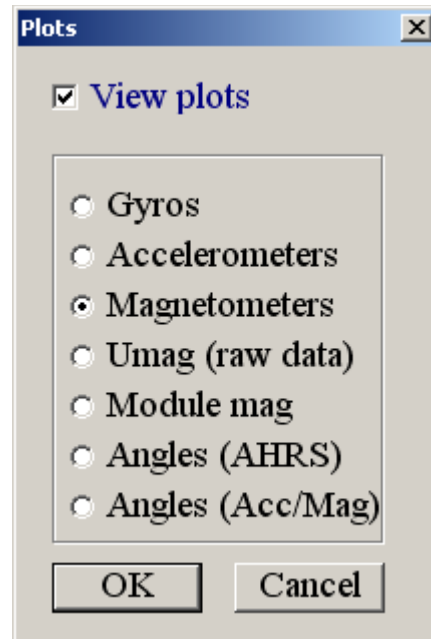

Fig. 5.2
For visualization of the AHRS outputs there are graphs in the upper part of the window. To call the graphs click the  button. As a result the «Plots» window (Fig. 5.2) will appear. In the middle part of this window select the signals you want to display:
2. For visualization mode “**AHRS 3D Demo**” only. Click  button. The «**Plots**» window (Fig.5.2) will appear. If you want to show graphs, check the «View plots» box. Select parameters you want to display and click «**OK**». Graphs with chosen parameters will be displayed in the upper part of the window. To end plotting uncheck «**View plots**» in the window «**Plots**» (Fig. 5.2) and click «**OK**».